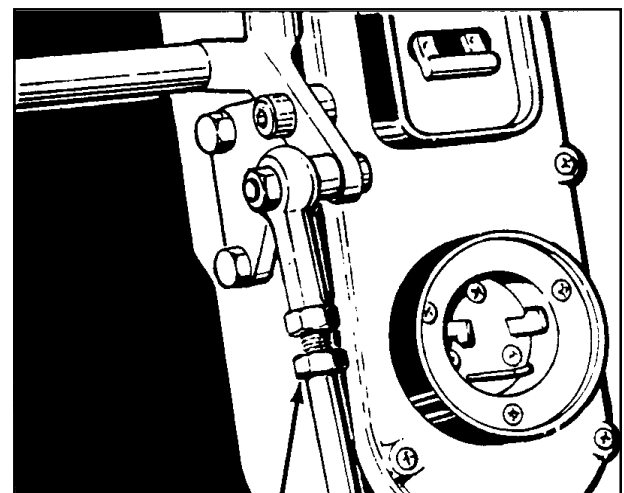

Figure 15
1. Hold the control rod and loosen the locknut. See figure 15.